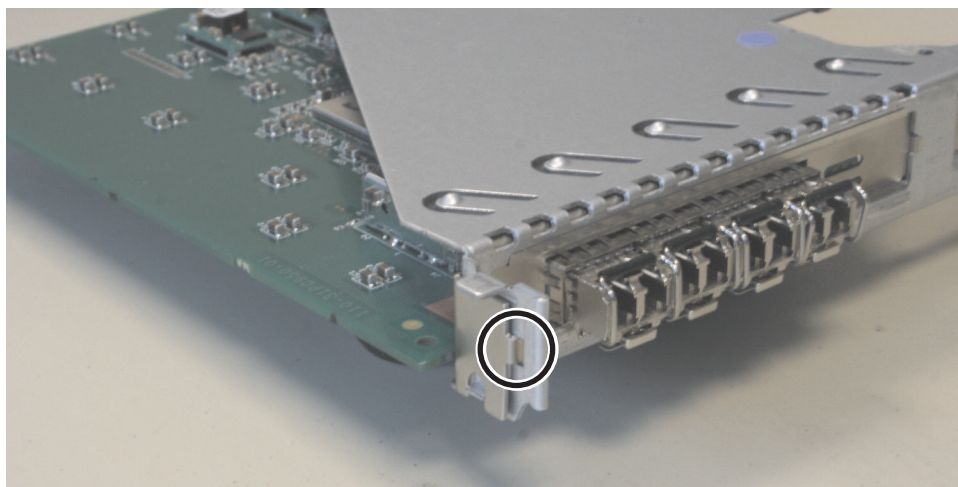

Figure 183. SAN Volume Controller 2145-8A4 riser-card assembly
2. Slide the Fibre Channel adapter into position, keeping it close and parallel to the back edge of the riser card. Push the adapter securely into the connector. Ensure that the positioning clip on the adapter goes into the locating hole on the riser card, as shown in Figure 183.